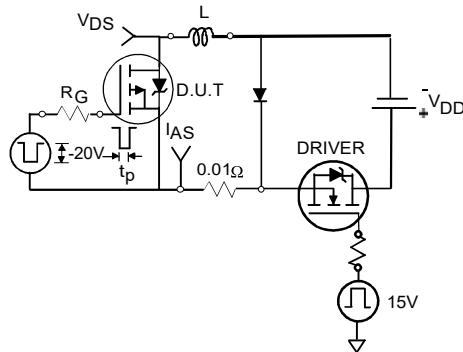

Figure 16a: Unclamped Inductive Test Circuit
3. Equation below based on circuit and waveforms shown in Figures 16a, 16b.